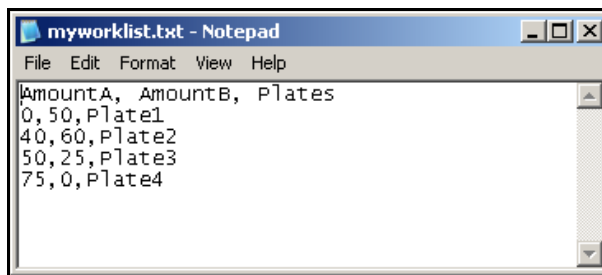

Figure 8-2. Created worklist
1. Using Notepad, create a text file that looks like Figure 8-2.